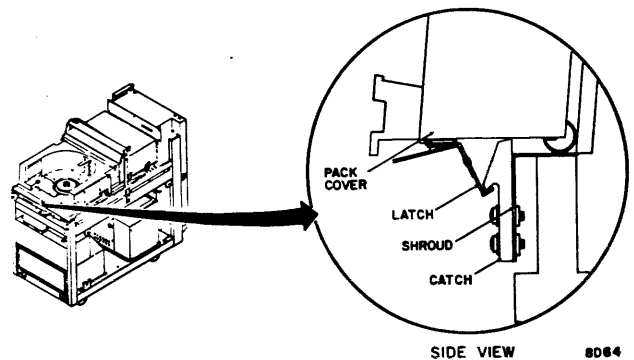

Figure 1-1. Pack Cover Latch
13. Release front cover latch (figure 1-1).